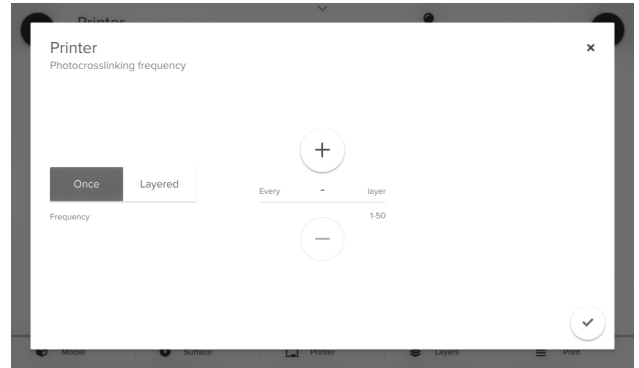

Figure 7: Setting the frequency of the photocrosslinking.
- a. You can set photocrosslinking to occur once at the end of the print, or at a custom frequency (Figure 7).